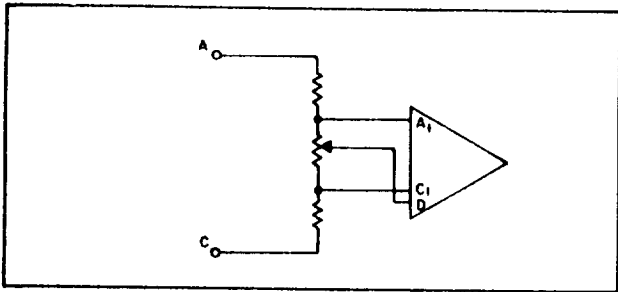

Figure 5-9. Differential Attenuator
Figure 5-9 illustrates the attenuators constructed for the Accudata 104-2 and -3 versions. The use of attenuator resistors
- I. **HIGH LEVEL INPUTS.** The Accudata 104-2 and -3 have internal input attenuators which reduce the effective range of the instrument from 250 millivolts to 6.25 volts for the -2 version, and from 1 to 25 volts for the -3 version. These devices are configured as noted in Figure 5-9, and find their widest usage coupling high level sources to low impedance loads, such as galvanometers. In addition to this, the calibrated range switching is still available to produce desired deflections.